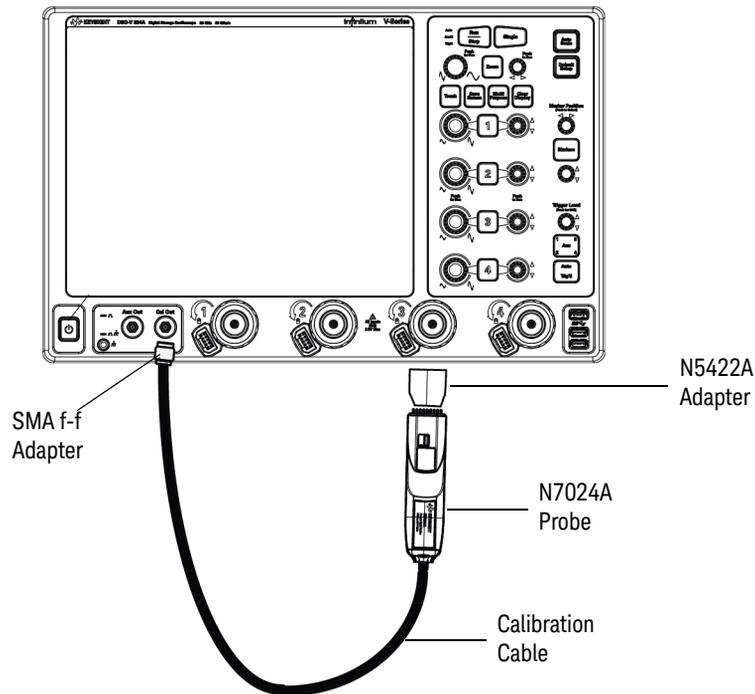

Figure 31 Calibration setup with the N7024A probe and calibration cable
- 1 From the hardware setup used in the N7024A bandwidth verification test (Figure 31), disconnect the calibration coax cable from the N7024A probe.